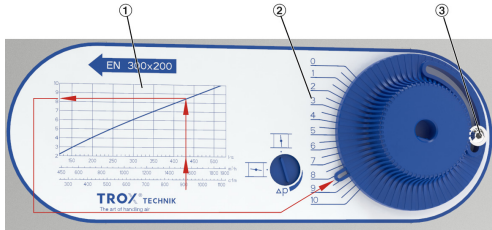

Fig. 10: Setting the volume flow rate
1. ▶ Using the volume flow rate scale (Fig. 10/1), determine the setting value (1-10) for the desired volume flow rate (l/s, m³/h, or cfm).
2. ▶ Loosen the hexagon socket screw (Fig. 10/3).
3. ▶ Set the rotary knob to the determined value of the setting scale (Fig. 10/2) and fix it with the hexagon socket screw (Fig. 10/3).